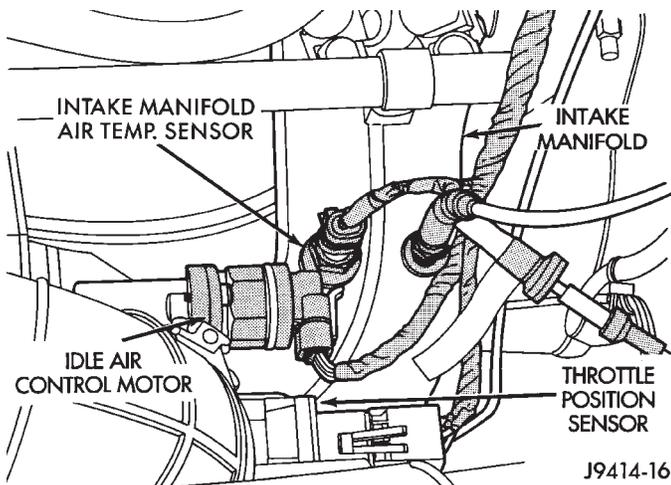

Fig. 18 Air Temperature Sensor—2.5L Engine
(1) Disconnect the wire harness connector from the sensor (Figs. 18 or 19).